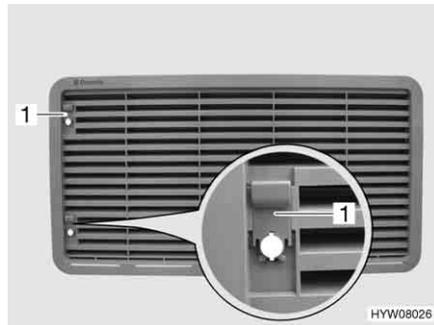

Fig. 167 Refrigerator ventilation grill (with sliding trap)
- Push sliding trap (Fig. 167,1) upward.